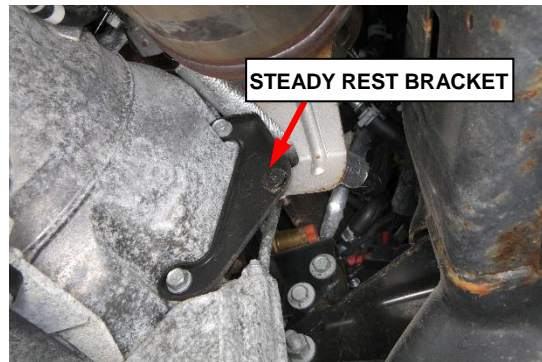

Figure 15 – Front Steady Rest Bracket
34. Remove the nut retaining the front DPF steady rest bracket to the transmission (Figure 15).